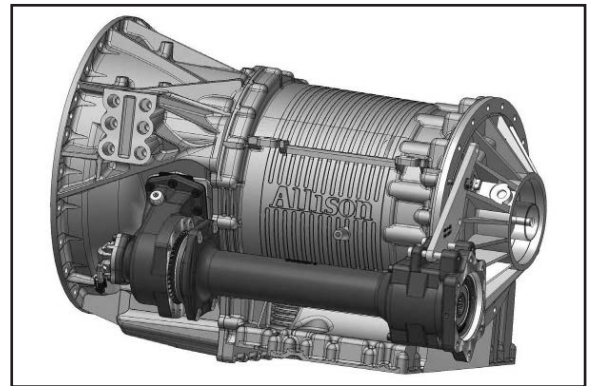

Figure 16
14. The tube assembly is lined up and inserted into the Input Housing. As this is done, the bolts for the bracket should be started into the rear of the transmission (**Fig. 16**).